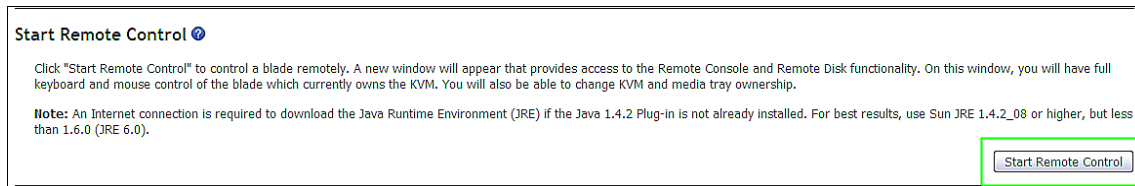

Figure A-5 Start remote control
4. Click **Start Remote Control** as shown in Figure A-5. A new window will open with the remote control Java applet. Be sure that there are no popup blockers running or configure them to allow the popup windows from the AMM. It may take some time for the window to appear and load the applet.